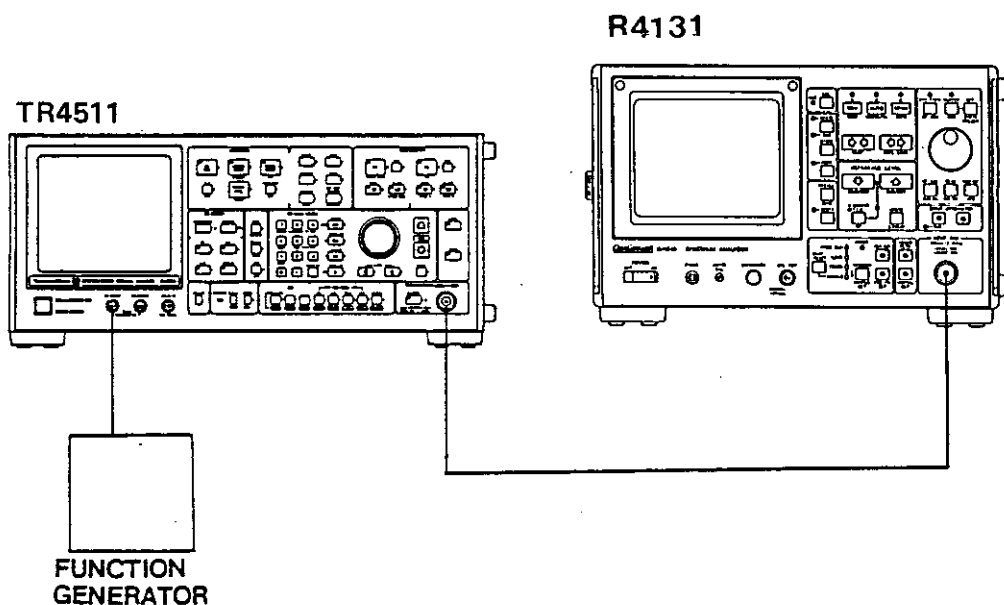
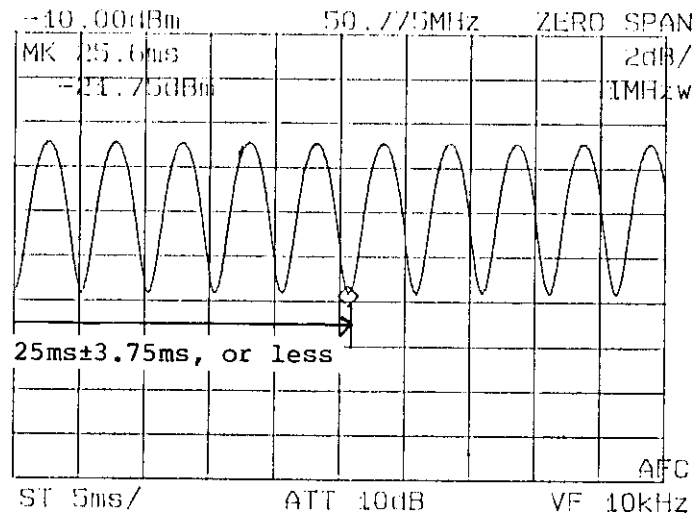

Figure 11-23 Sweep Time Accuracy Test Setup
Figure 11-24 Sweep Time Accuracy Test
- ② Set the output frequency of the synthesized signal source to 50 MHz, -10 dBm, EXT AM mode.
- ③ Set the function generator to generate sine waves at 200 Hz  $\pm 0.5\%$ .
- ④ Connect the instruments as shown in Figure 11-23. Turn the R4131 TUNING dial to position the signal in the center of the display screen. Further, set the frequency span to zero span and adjust the TUNING dial to obtain the maximum signal level.
- ⑤ Adjust the function generator output level to obtain demodulated waves in the order of 3 DIVp-p.
- ⑥ Adjust the reference level to position the signal at an easily viewed position on the display screen.
- ⑦ Set the TRIGGER MODE switch to VIDEO.
- ⑧ Set the sweep time/division to 5 ms and store the resultant waveform. Check that five periods of the demodulated waves have a duration of 25  $\pm 3.75$  ms, or less. (See Figure 11-24)
- ⑨ Similarly, test other sweep time/division with the settings specified in Table 8-11.